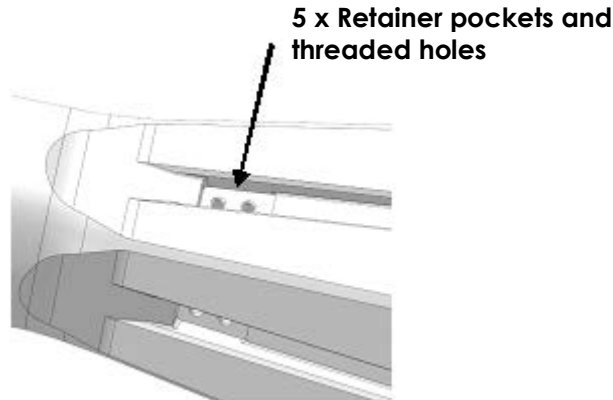

Figure 3
2. Modification of 'on-hand' Mandrel(s) – P/N: 15553 or 15553-1 – See Figure 3.